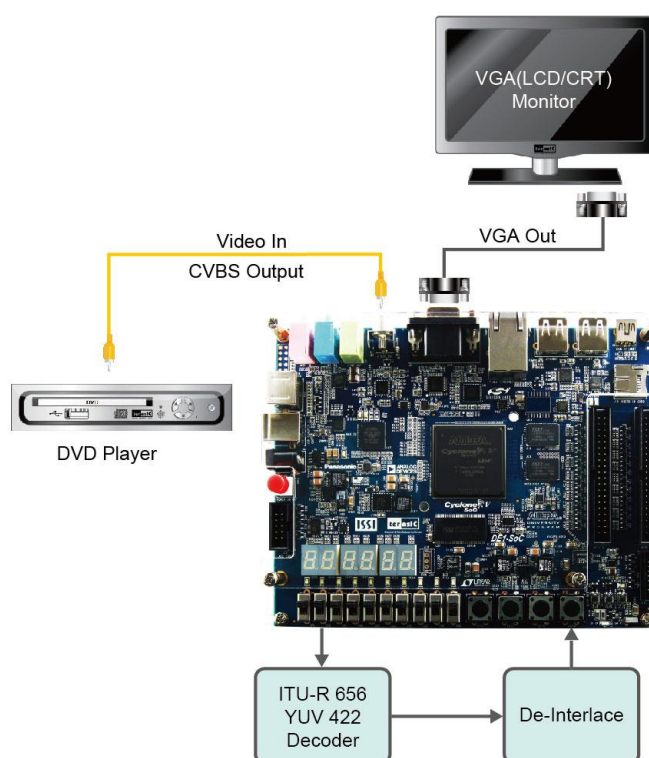

Figure 5-10 Setup for the TV box demonstration
- Connect a DVD player's composite video output (yellow plug) to the Video-in RCA jack (J6) on the DE1-SoC board, as shown in **Figure 5-10**. The DVD player has to be configured to provide: